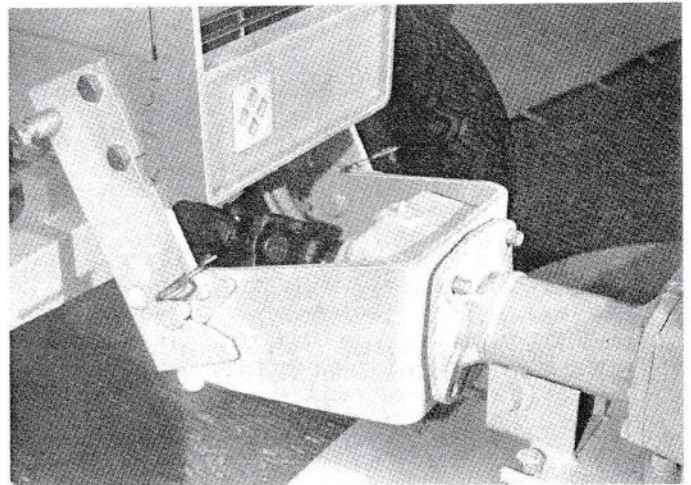

FIGURE 21
4. Mount attachment to Front Adapter Kit as shown. (Figure 21).